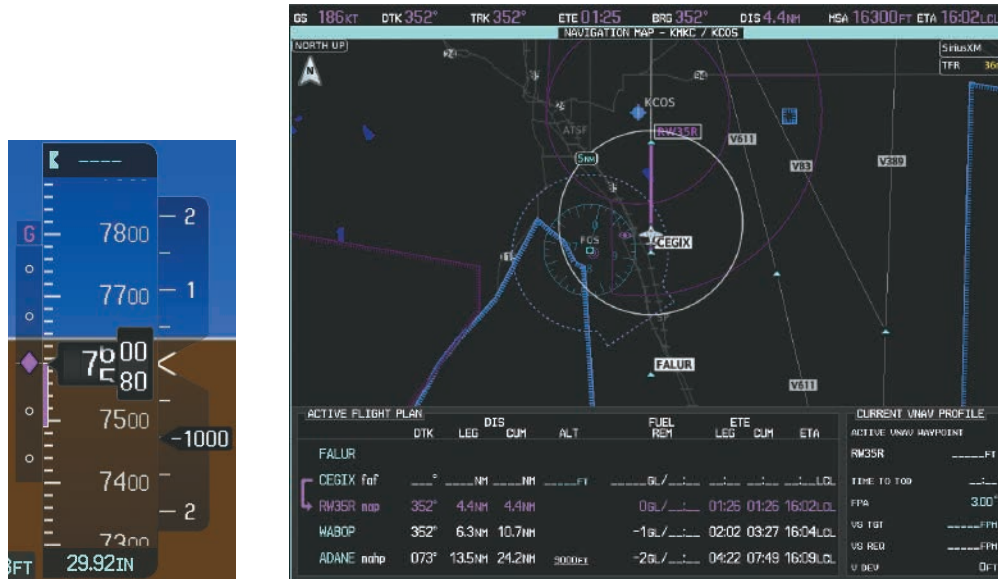

Figure 5-202 Descending to the Missed Approach Point
22) After crossing CEGIX, the aircraft continues following the glidepath to maintain the descent to "AT or ABOVE" 6,370 feet at the Missed Approach Point (MAP) (RW35R) as seen in Figure 5-202.